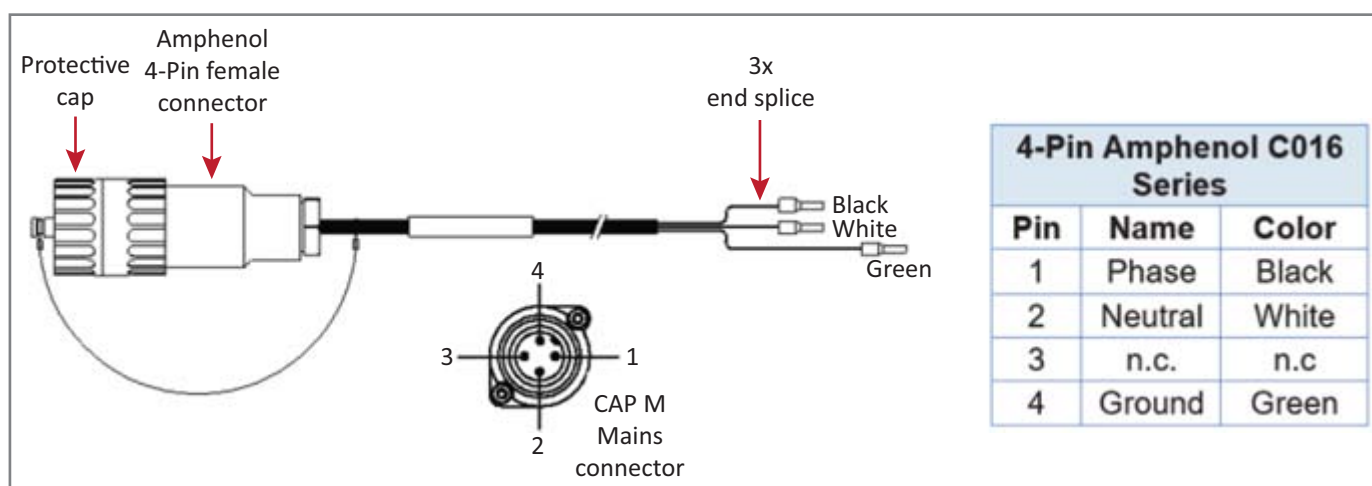

Figure 9. CAP M AC Power Cable
The AC power cable is a 3.2 m (10.5 ft) 16 AWG cable with a 4-pin Amphenol C016 series plug on one end to connect to the CAP M Mains connector. The other end of the cable is unterminated with 3 end splices to connect to the AC power source. A 10 m (33.7 ft) AC power cable is also available as an option. The AC power cable is shown in Figure 9.
- Figure 9 on page 56 for the AC power cable